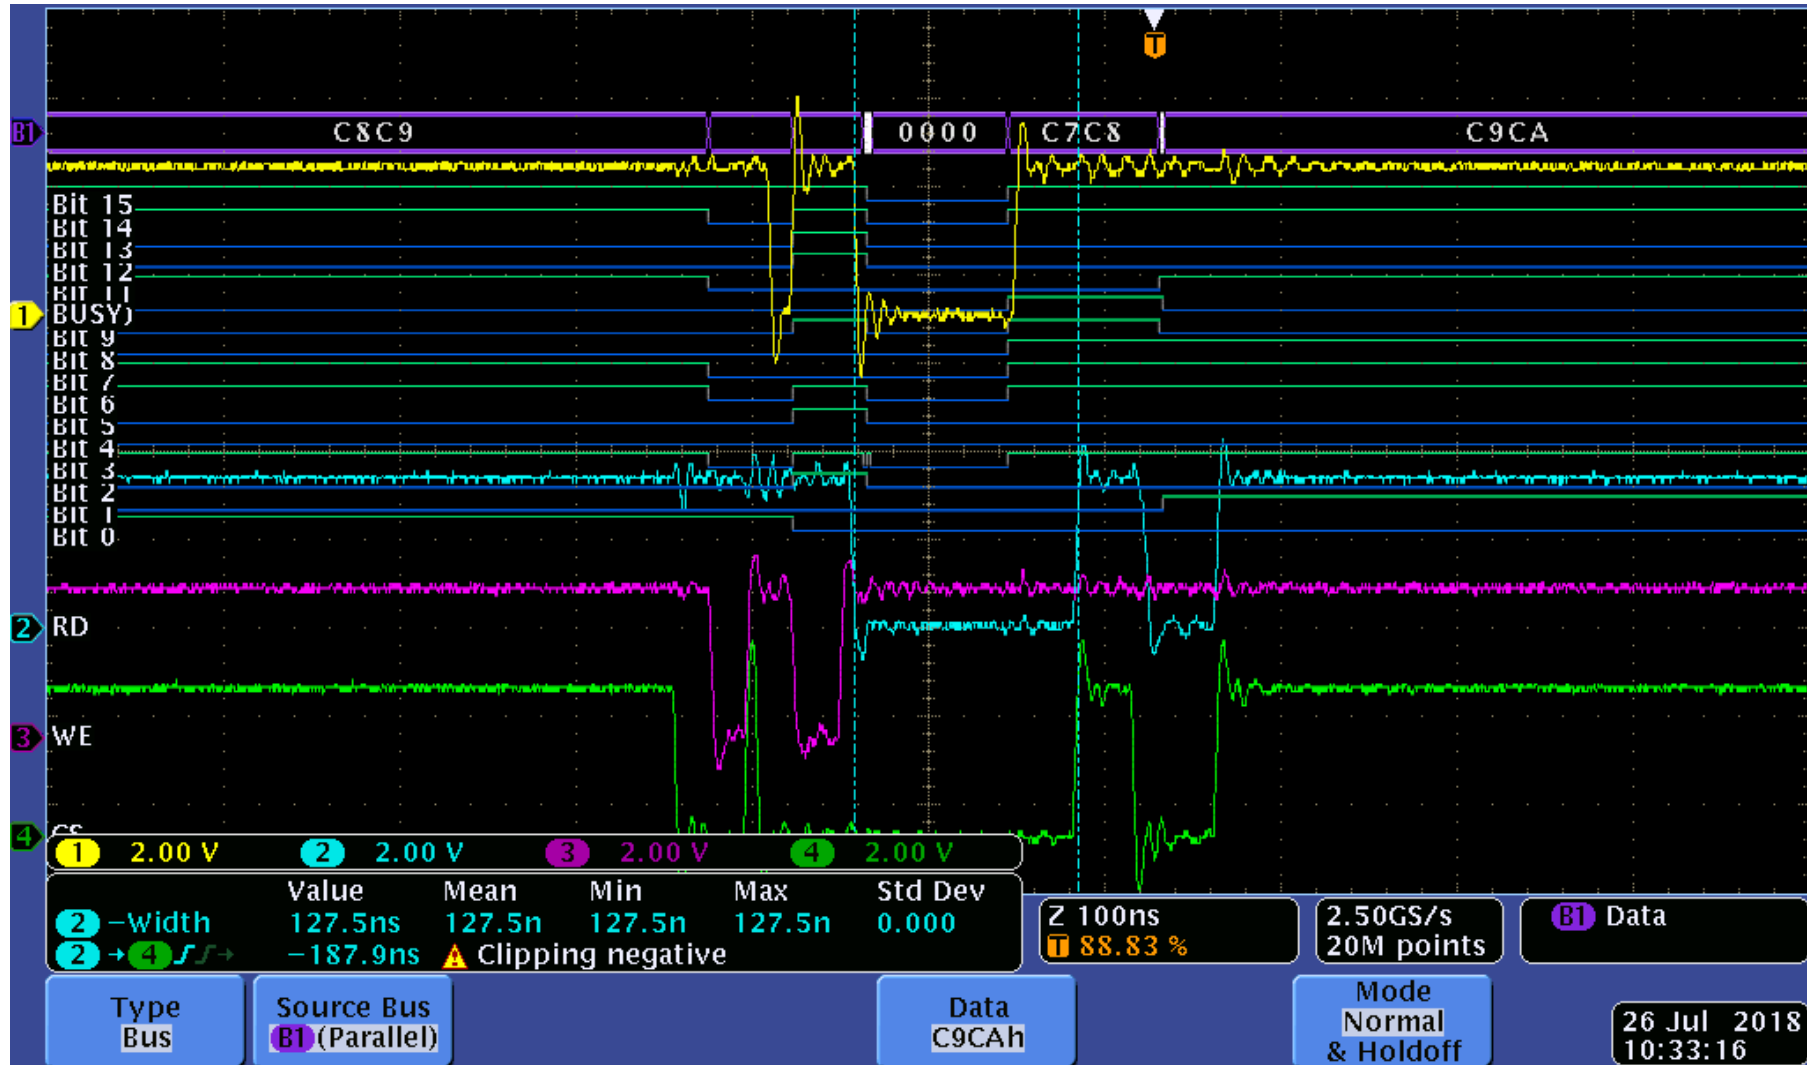

Figure 2: Reading data from 0x8001 F000. Value 0xC7C8 C9CA read correctly.
- b) With setting XRDACTIVE = 5, the F28335 reacts correctly on the xReady signal. (see Figure 2)